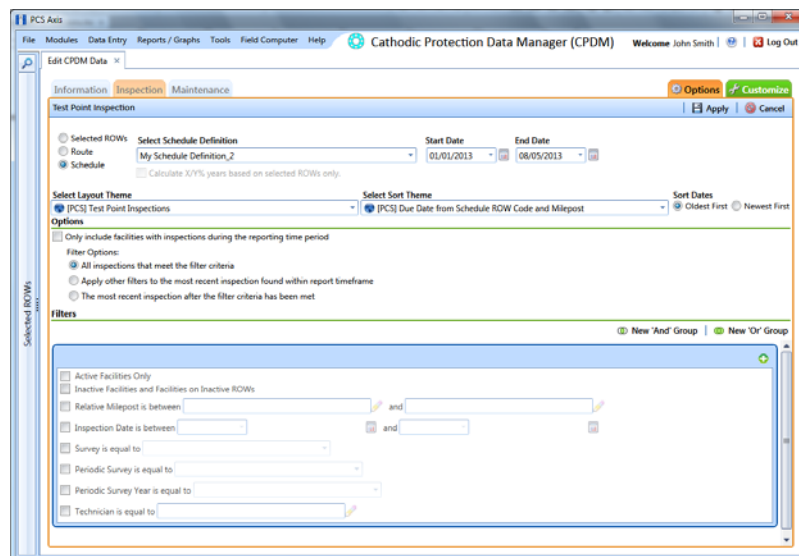

Figure 6-32. Options
- 5 Click the **Options** tab  to open the options page (Figure 6-32).